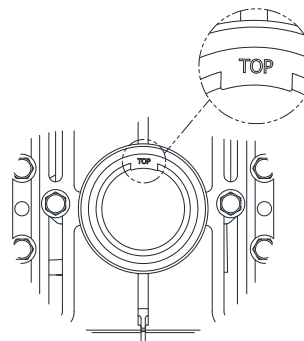

Fig. 17e
- e. Prep the coupling end and flange, following PVC Cement manufacturer's instructions. Glue flange to pipe with "TOP" properly aligned. See Fig. 17e